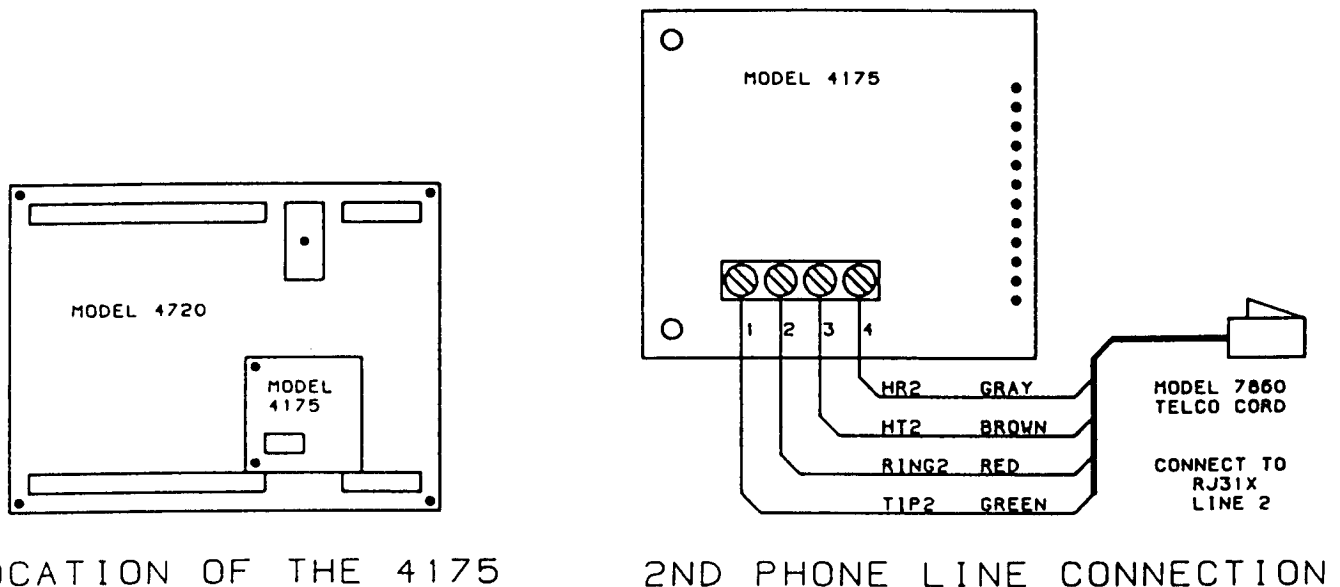

FIGURE 12.4A: MODEL 4175 DUAL PHONE LINE MONITOR WIRING
2. Connect the second phone cord as shown in Figure 12.4A below. (The first phone cord for line 1 should be connected directly to the 4720 as described in Section 12.1).